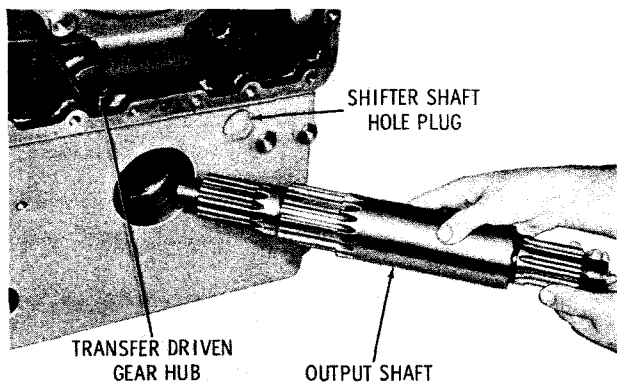

Fig. 7-2. Installing one-piece output shaft
(2) If shifter shaft hole plug was removed, install a new plug (fig. 7-2). Apply nonhardening sealant onto the outside diameter of the new plug. Install the plug, closed end first, and seat it against the shoulder in the housing bore.
(3) Install the output shaft, double-splined end first, through the front of the housing and the splined hub of the transfer driven gear (fig. 7-2).
(4) Start bearing 9 (A, foldout 8), the shield side last, into front bore of the housing.